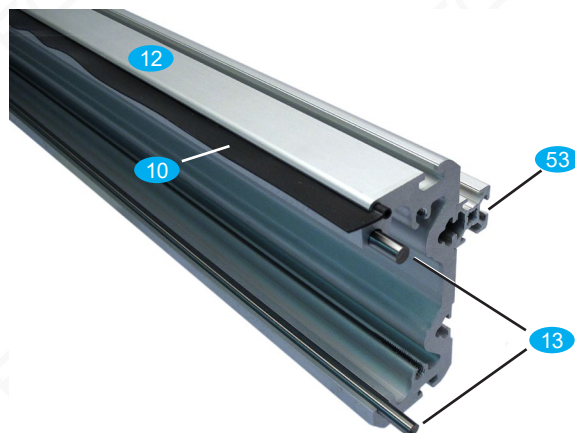

Fig. 7: Lateral guide profile with attachments
- Load the cross holes of the table profiles (53) with cylinder screws (Z2) and screw on one hammer nut (H1) a turn or two.
- Place the table profiles (12) with the hammer nuts in the upper side groove of the guide profiles (see figure 7). Align to center: Protrusion must be avoided!
- Guide the sealing profile (10) into the designated groove of the guide profile (see picture 7) and cut it flush with scissors.
- Push the precision shafts (13), on which the castors will run later, into the corresponding channels of the guide profiles. Temporarily secure the shafts with a little tape to prevent them from slipping out.